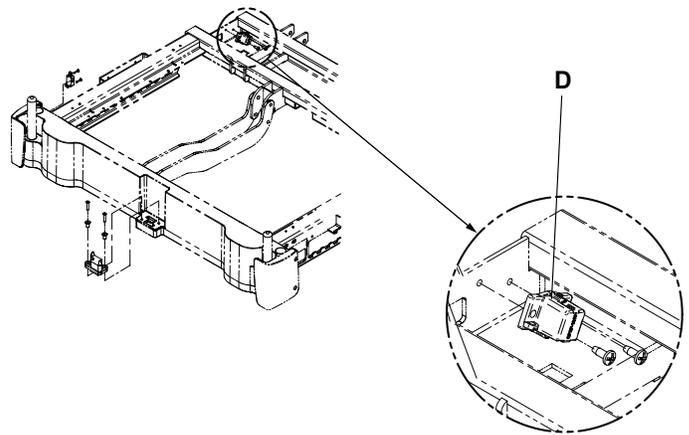

Figure 68 – Angle sensor
5. Using a #2 Phillips short screwdriver, remove the two screws that secure the angle sensor (D) to the foot frame (Figure 68). Save the screws.